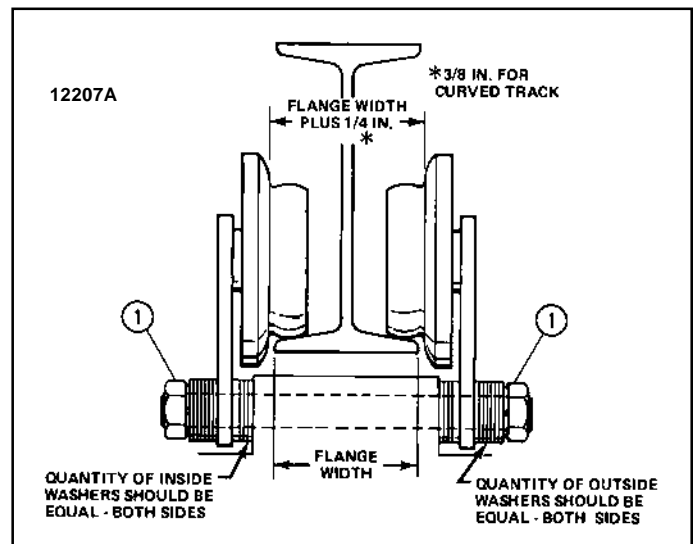

Figure 2. Sectional View of Trolley showing proper wheel and washer spacing
4. Measure exact width of bottom beam flange and add 1/4" to this dimension. This is the required distance between inside faces of wheel flanges to obtain proper operating clearance, as indicated in Figure 2.